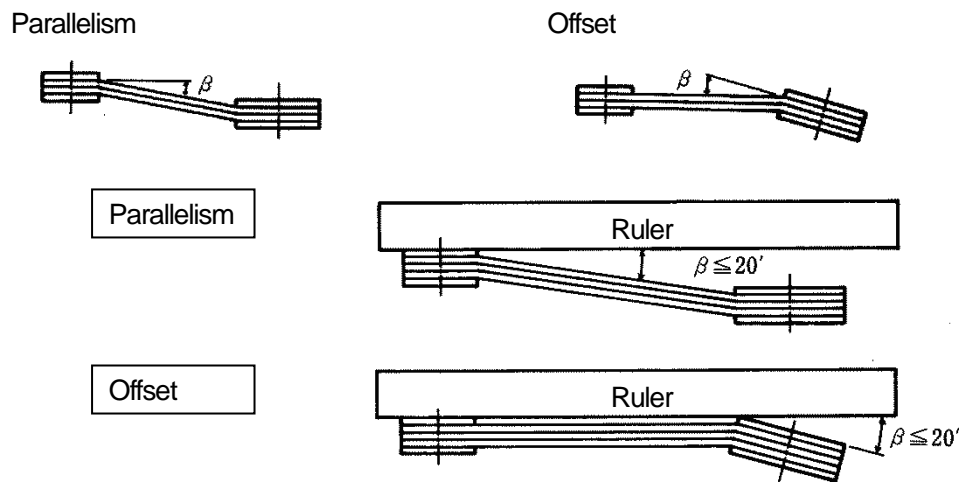

Fig.1 Parallelism and Offset
- (1) Remove belt cover (A) ⑤.
- (2) After loosen nuts of motor adjuster ⑱, move motor ① closer to fan stand ⑨. And remove the old belt ③.
- (3) Install the new belt ③. If multiple belts are used, it is recommended to use “matched set” of which the circumference length is the same.
- (4) Adjust the parallelism and offset with motor adjuster ⑱ as putting a ruler on motor pulley ② and fan pulley ④, at the same time, adjust deflection as you give tension at the center of the span to the belt. (Fig.1 and 2)